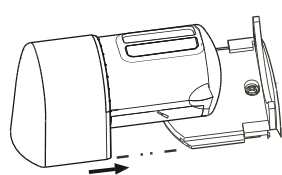

Fig. 17
4. Position sensor in the bracket. Fig. 17